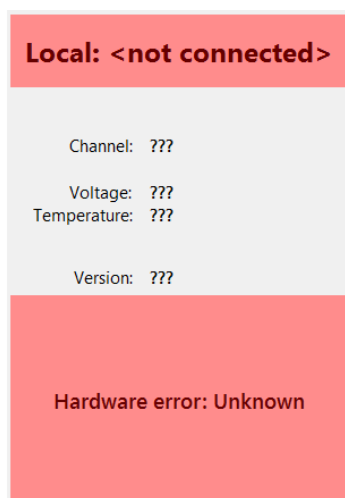

Figure 2.3: RadioCheck indicates a radio with general hardware failure.
- General/Unknown error: for some reason, the radio is not able to successfully power up. Generally this is a permanent problem requiring the radio to be replaced. See Figure 2.3 on page 6.